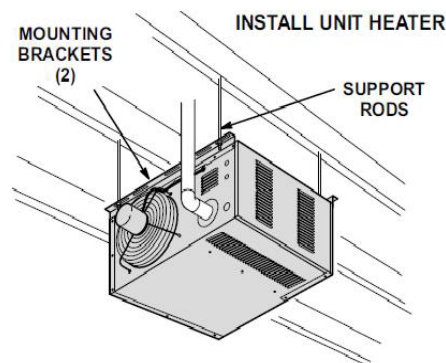

Fig. 2
Unit is shipped ready for installation. Unit may be installed as shown in figure 2 or inverted 180° depending on desired location as governed by clearances, vent connection, air direction, gas supply, electrical supply and service accessibility.
5. To support unit, secure mounting bracket to ceiling joist or truss. Unit may also hang on support rods as shown in figure 2.